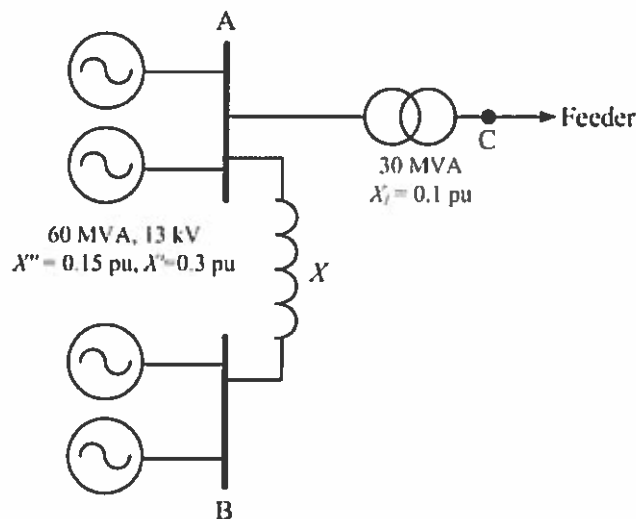

Figure 4.1: Single line diagram for the system in Problem 4(b)
4. c) Four identical generators are connected to two bus bars, A and B as shown in Figure 4.1. The rating of each generator is 13 kV, 60 MVA and their sub-transient and transient reactance is 0.15 pu and 0.3 pu, respectively. A feeder is supplied from bus bar A through a step-up transformer rated at 30 MVA with 10% leakage reactance. Bus bars A and B are connected through a reactor with reactance X . Neglect the pre-fault current and fault impedance and assume the pre-fault voltage to be 1.0 pu. Choose 60 MVA as the system base. Consider fault current contribution from the generators only.
- i) Calculate the value of the reactance X in pu if the three-phase short-circuit level at the feeder side of the transformer (marked by point C in Figure 4.1) is to be limited to 240 MVA
- ii) Using the value of X from part (i) calculate the voltage at bus bar A during a three-phase fault at the feeder side of the transformer (marked by point C in Figure 4.1)